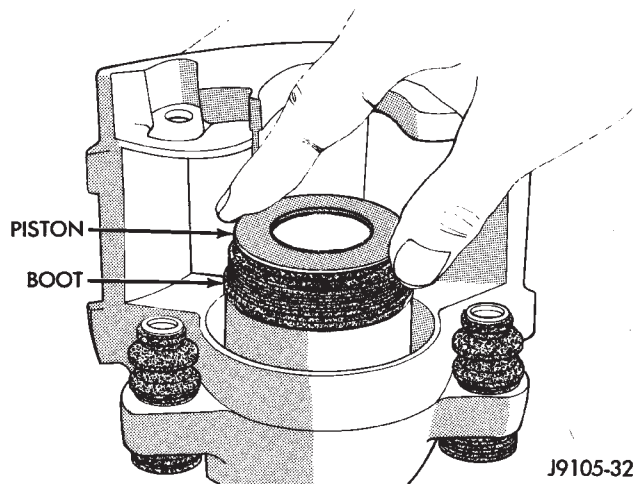

Fig. 72 Caliper Piston Installation
(6) Press piston into caliper bore by hand, use a turn and push motion to work piston into seal (Fig. 72).